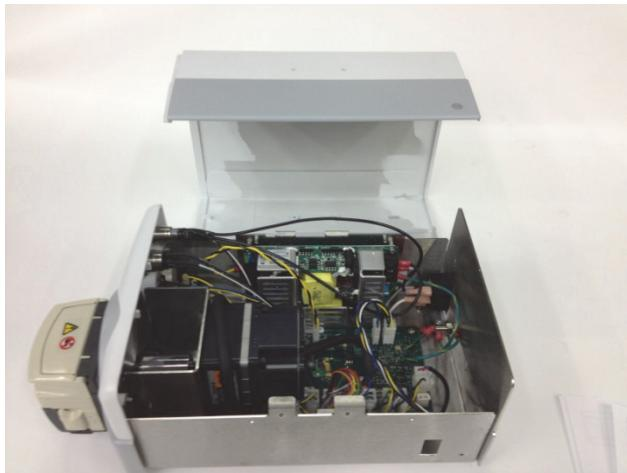

Figure 5
- Gently lift the cover off. See figure 5.